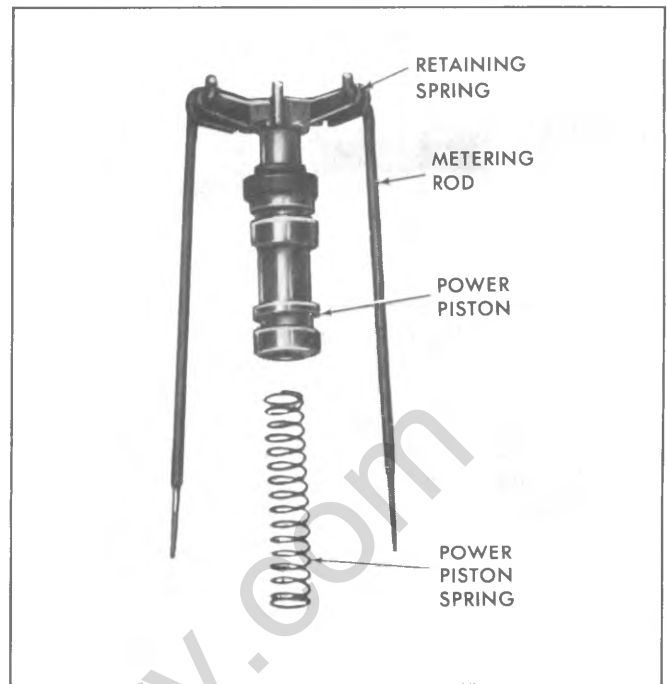

Fig. 6C2-60--Power Piston and Metering Rods
6. Remove metering rods from power piston by disconnecting tension spring from top of each rod, then rotate rod to remove from hanger (Fig. 6C2-60).